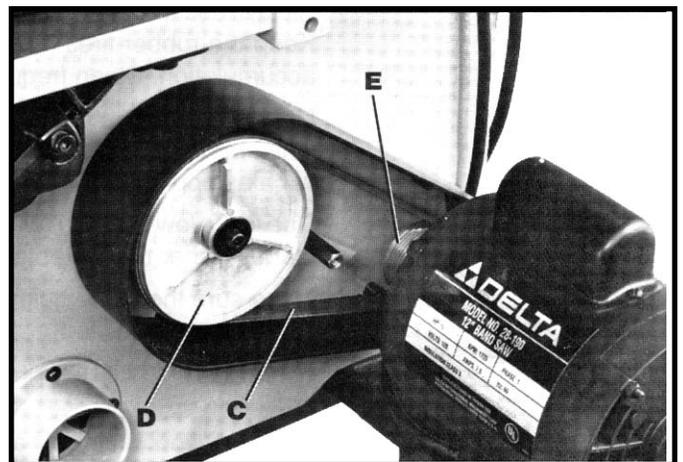

Fig. 30
3. A poly V-belt (C) Fig. 30, drives the saw pulley (D) from the motor pulley (E). Correct tension of the belt (C) is when there is approximately 1/4" deflection in the center span of the belt (C) using light finger pressure. If belt tension needs to be adjusted, loosen motor mounting hardware and slide motor forward or backward until correct tension is obtained. Then tighten motor mounting hardware.